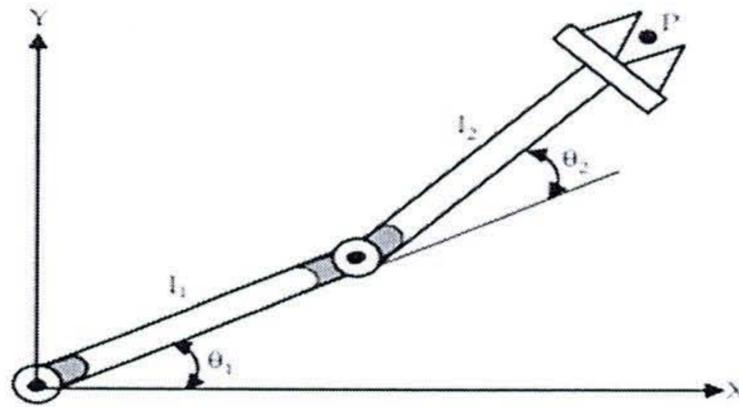

Fig. Q1: Robotic arm
1. This paper contains seven (7) questions.
3. Answer any other **three (3)** questions in **Section B**, each carries **20 marks**.
- (b) Consider the three-link planar manipulator shown in Fig. Q1. Derive the forward kinematics for the manipulator. [8]